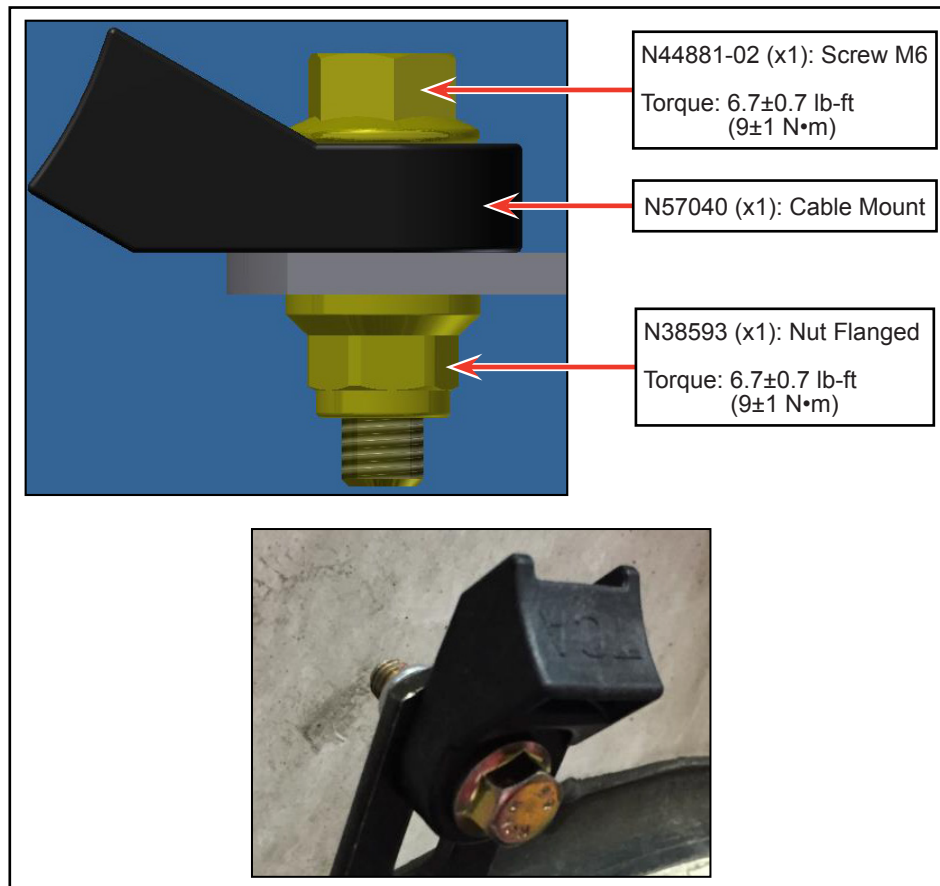

Figure 10 - Cable Mount Installation
- 1.17. Install a cable mount N57040 on the bracket end with hardware (see Figure 10).
1.18. Tighten the hardware as per torque recommendation (see Figure 10).